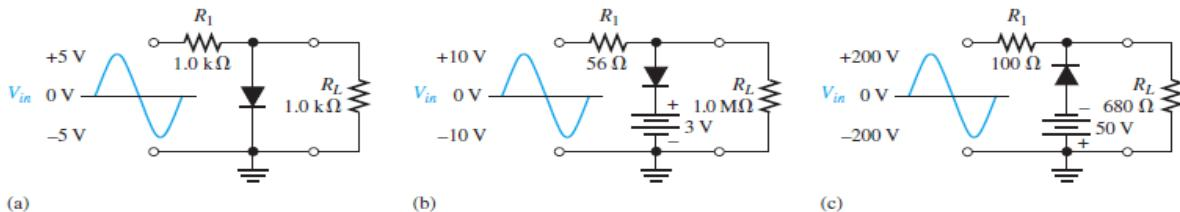

Figure 2–95
35. Draw the output voltage waveform for each circuit in Figure 2–96.